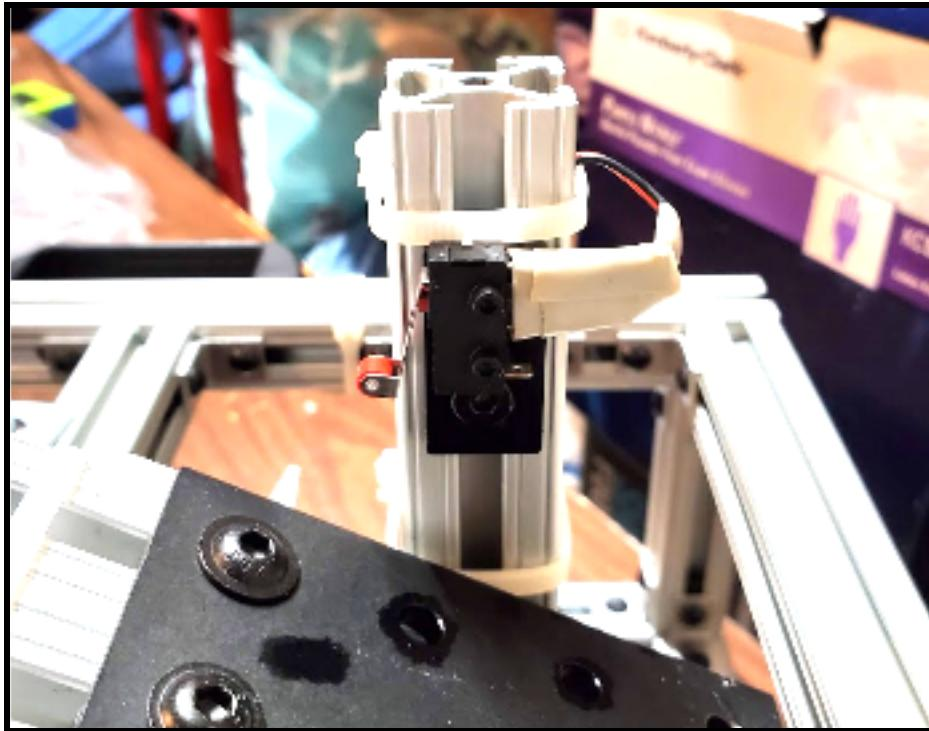

Figure 10.4 Example of how the absolute limit switch should be set up at the back of the machine.
10.9) Orient the long side of the limit switch parallel to the long side of the plastic mounting piece and use the two small screws to secure the limit switch to the corresponding holes at one end of the mounting piece, with the lever hinge on the opposite side of the big hole in the mounting. Slide the t-slot nut into the top end of the upwards-pointing extrusion at the back of the machine, and secure the entire bracket to the extrusion. See Figure 10.4 for how this limit switch should be mounted.